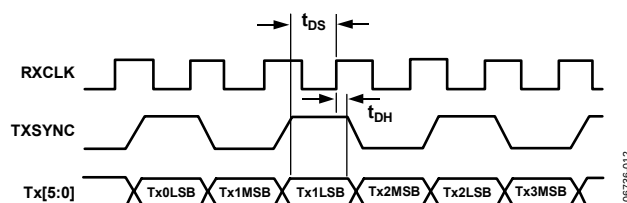

Figure 12. Tx[5:0] Port Full-Duplex Timing Diagram
- Data from the Tx[5:0] port is read on the rising edge of this sampling clock, as illustrated in the timing diagram shown in Figure 12. Note that $\overline{\text{TXQUIET}}$ must remain high for the reconstructed Tx data to appear as an analog signal at the output of the TxDAC or IAMP.